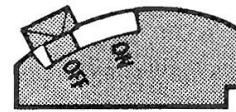

FIGURE 1
- Move selector arm to the "Off" position. (See figure 1.)